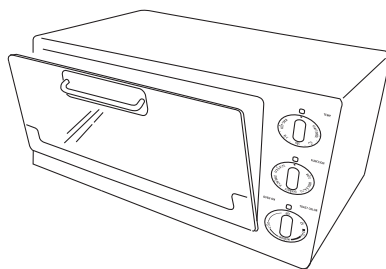

fig. 1
- Place the food to be grilled on the broil rack (P) inserted on the bake pan (H), and place them together in the guide 1.
- Close the door until you hear a “click” (see figure 1).
- Turn the function selector knob (D) to the  position.
- Rotate the timer knob (B) in a clockwise direction.
- After cooking, manually turn the Timer knob (B) back to “0” position.
- Turn the thermostat knob (A) to position  .
- Turn the function knob (D) to position  .